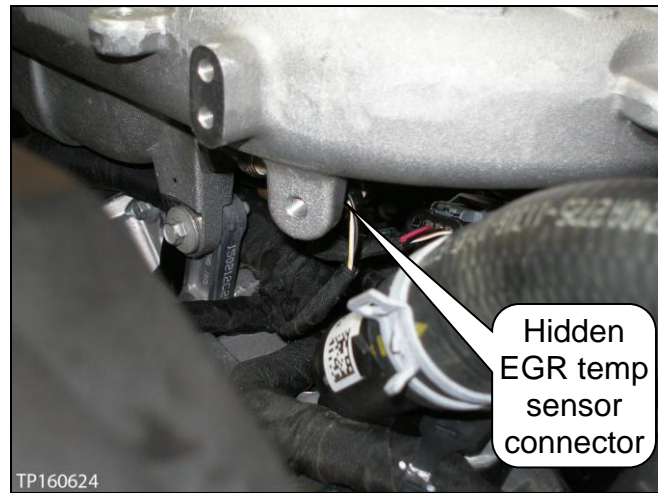

Figure 82
27. Connect the EGR temperature sensor connector (see Figure 82 and 83).